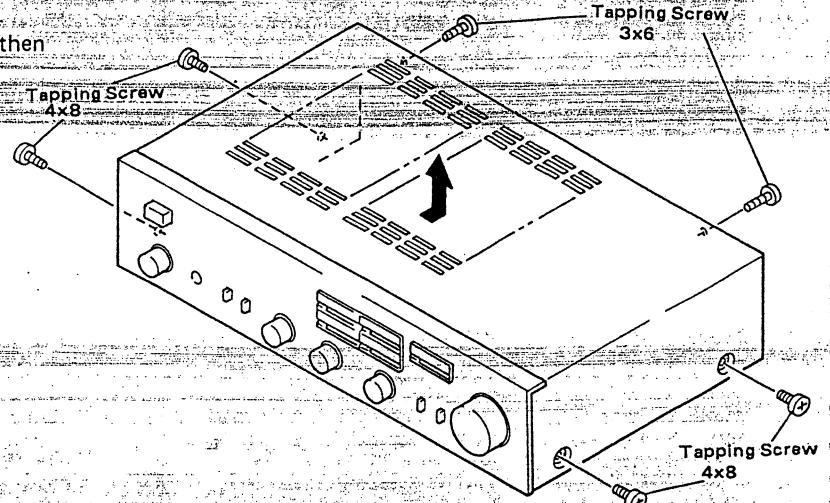

Fig. 4
1. How to remove top cover (Fig. 4)